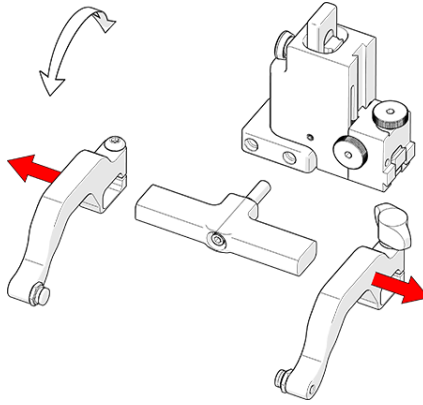

Figure 3-29 Remove probe holder arms
3. Loosen the arm clamp screw and the probe holder arm adjustment knob allowing removal of the probe holder arms (see Figure 3-29 on page 61).